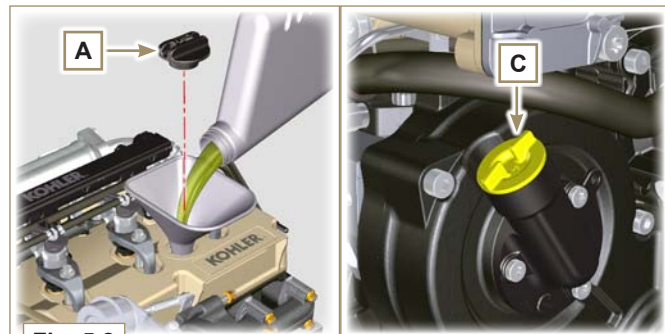

Fig. 5.2
- 4 - Re-tighten the cap **A** and/or **C** (Fig. 5.2).